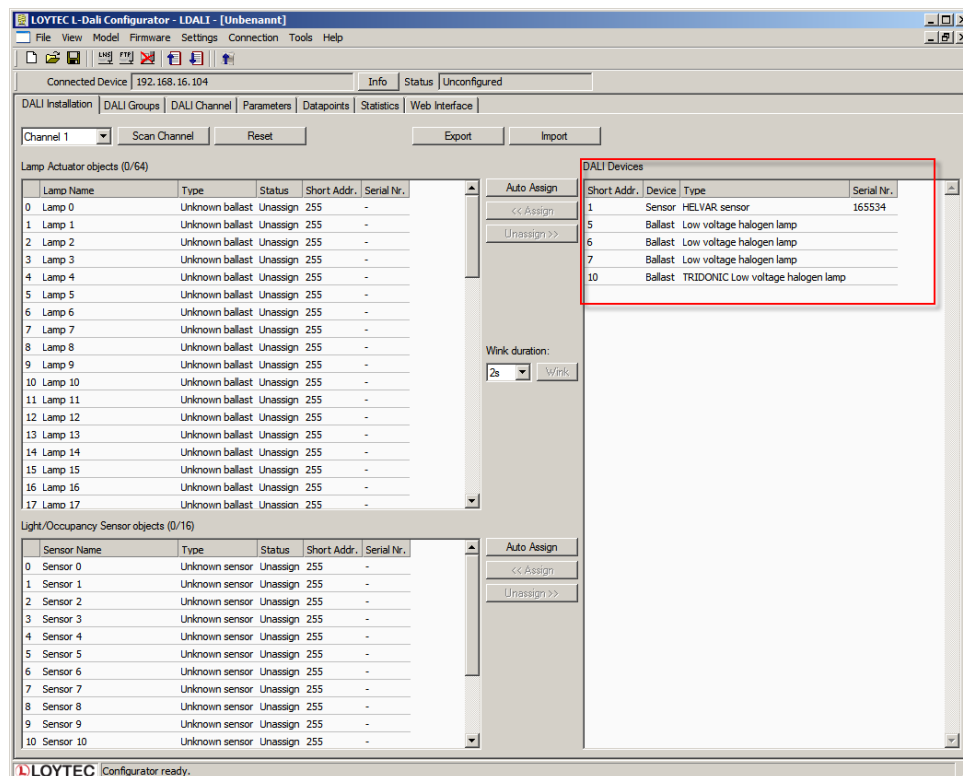

Figure 14: L-DALI Configuration Software, Detected DALI Devices
2. The L-DALI device scans the selected channel and displays all detected devices as shown in Figure 14.